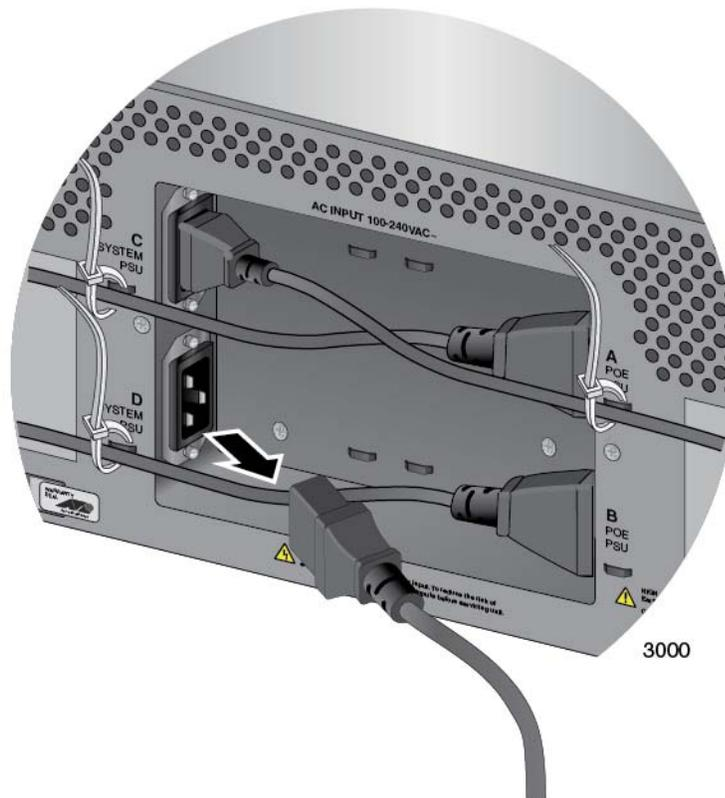

Figure 137. Disconnecting the AC Power Cord from the AC Socket on the Back Panel
1. Disconnect the AC power cord for the power supply from the AC power source and the corresponding AC socket on the back panel of the chassis. The figure in Figure 137 shows the removal of the power cord from connector D, which corresponds to slot D on the front panel.